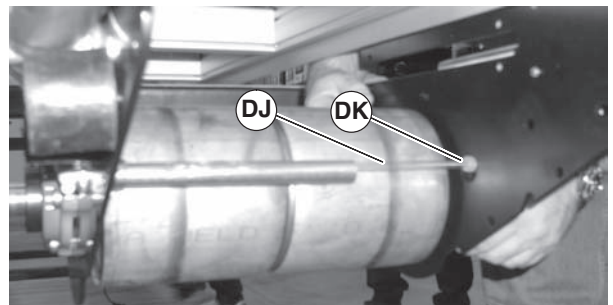

Figure 99
7. Disconnect flexible air hose (Figure 99, item DJ) from fitting (DK).